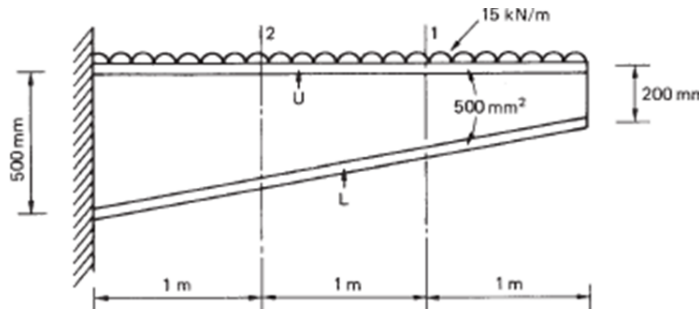

Figure 7
- (b) A wing spar has the dimensions shown in the Figure 7 and carries a uniformly distributed load of 15 kN/m along its complete length. Each flange has a cross-sectional area of 500 N/mm^2 with the top flange being horizontal. If the flanges are assumed to resist all direct loads while the spar web is effective only in shear, determine the flange loads and the shear flows in the web at sections 1 and 2m from the free end. [BL: Apply| CO: 6|Marks: 7]